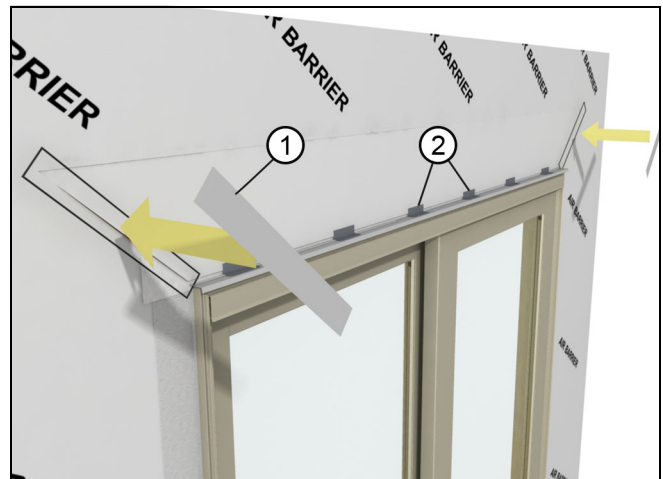

Figure 38
5. Fold the head jamb air barrier down over the head jamb flashing. Apply seam seal tape over the diagonal cut in the air barrier. Make sure the tape laps onto the unit or casing. Cut 3" (76) strips of tape and install every 12" (305) along the head jamb. Tape and seal any seams and fasteners directly above the unit. See Figure 38.